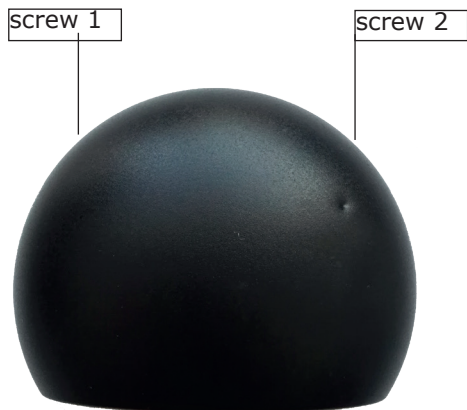

Figure 1
- With a cross head screwdriver, remove the two fastening screws from the dome as shown in Figure 1;